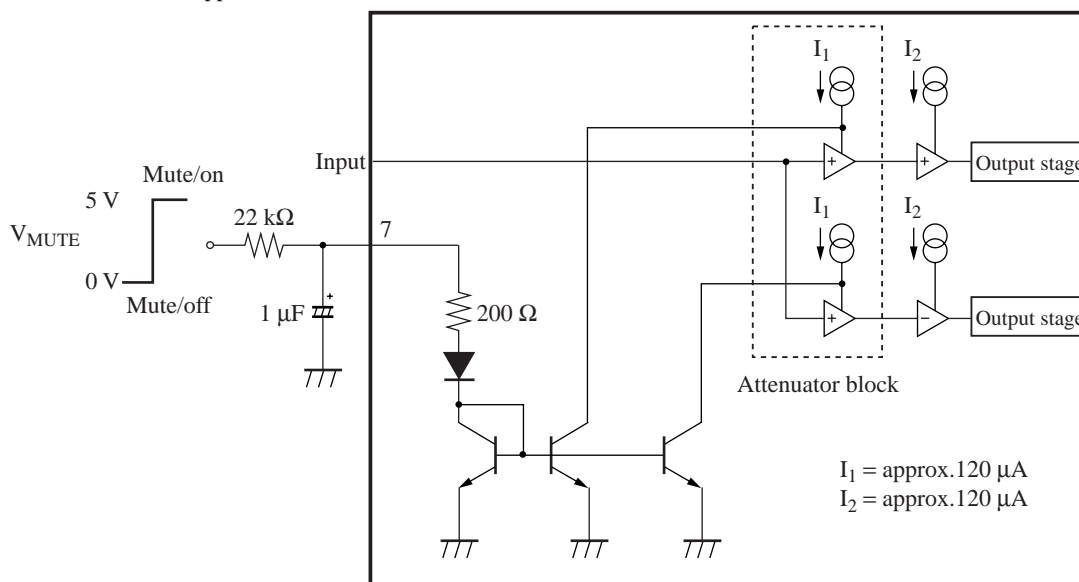

Figure 7
- 2) The muting circuit is as shown in figure 7. The amplifier gain including attenuator block is given in the following equation :
- 4) Attack time and recovery time can be changed by the external CR of pin 7. For recommended circuits (In figure 7 22 kΩ, 1 μF), the above mentioned times are as follows :